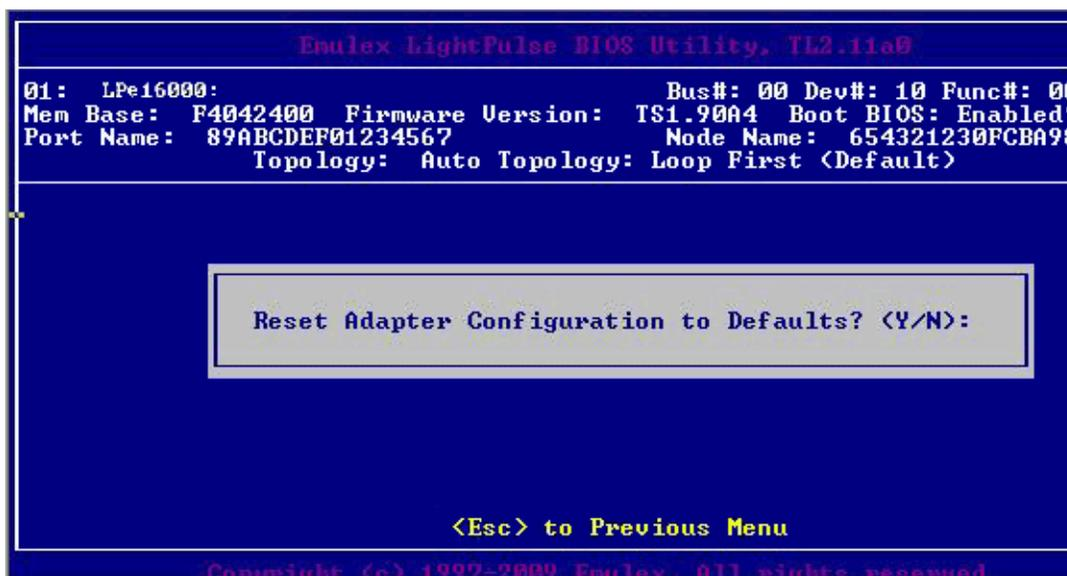

Figure 4-20 BIOS Utility Screen
1. On the main configuration menu (Figure 4-2 on page 26) select **Reset Adapter Defaults** and press **<Enter>**. A screen similar to Figure 4-20 on page 43 is displayed asking if you want to reset to the default settings.